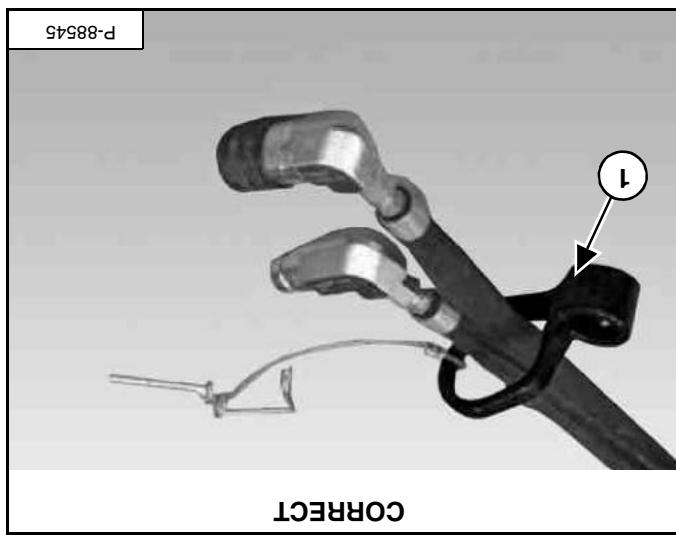

Figure 14
Shown is the removable hose guide (item 1) [Figure 14] correct orientation for a loader.